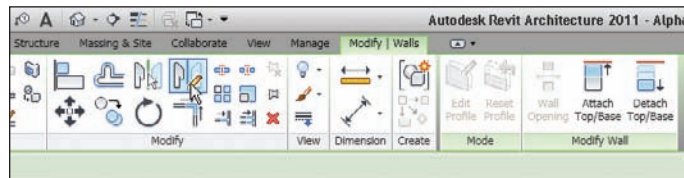

FIGURE 1.24 The Ribbon adds the appropriate commands.
2. Once the walls are selected, you will see the Modify Walls tab appear. On the Modify panel, click the Mirror Draw Axis button, as shown in Figure 1.24.